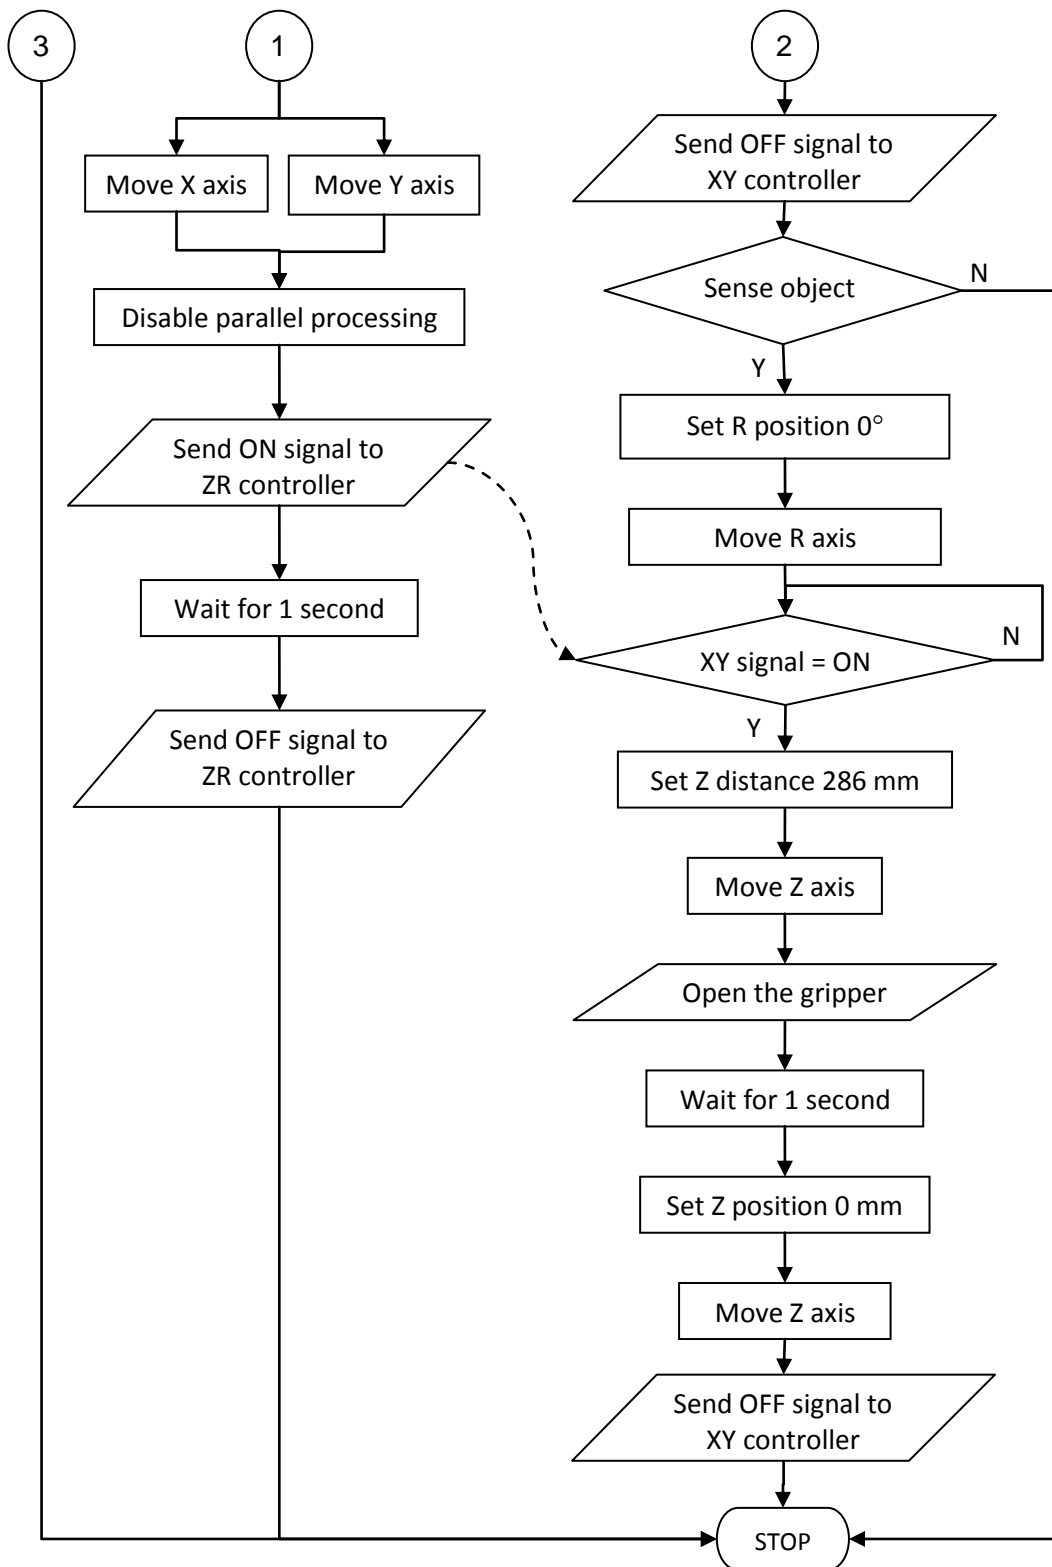

Figure Q2[c]
- [c] The flow chart in Figure Q2[c] shows the task of gantry robot to pick a component from a loading station and place it on a sliding table. The inputs and outputs of the ZR motor controller are connected to the solenoid valve of the gripper, optical sensor at the gripper, inputs and outputs of the XY motor controller as shown in Table Q2[c]. Write a program for the XY motor controller and another program for the ZR motor controller according to the given flow chart. Download both programs in memory 9.